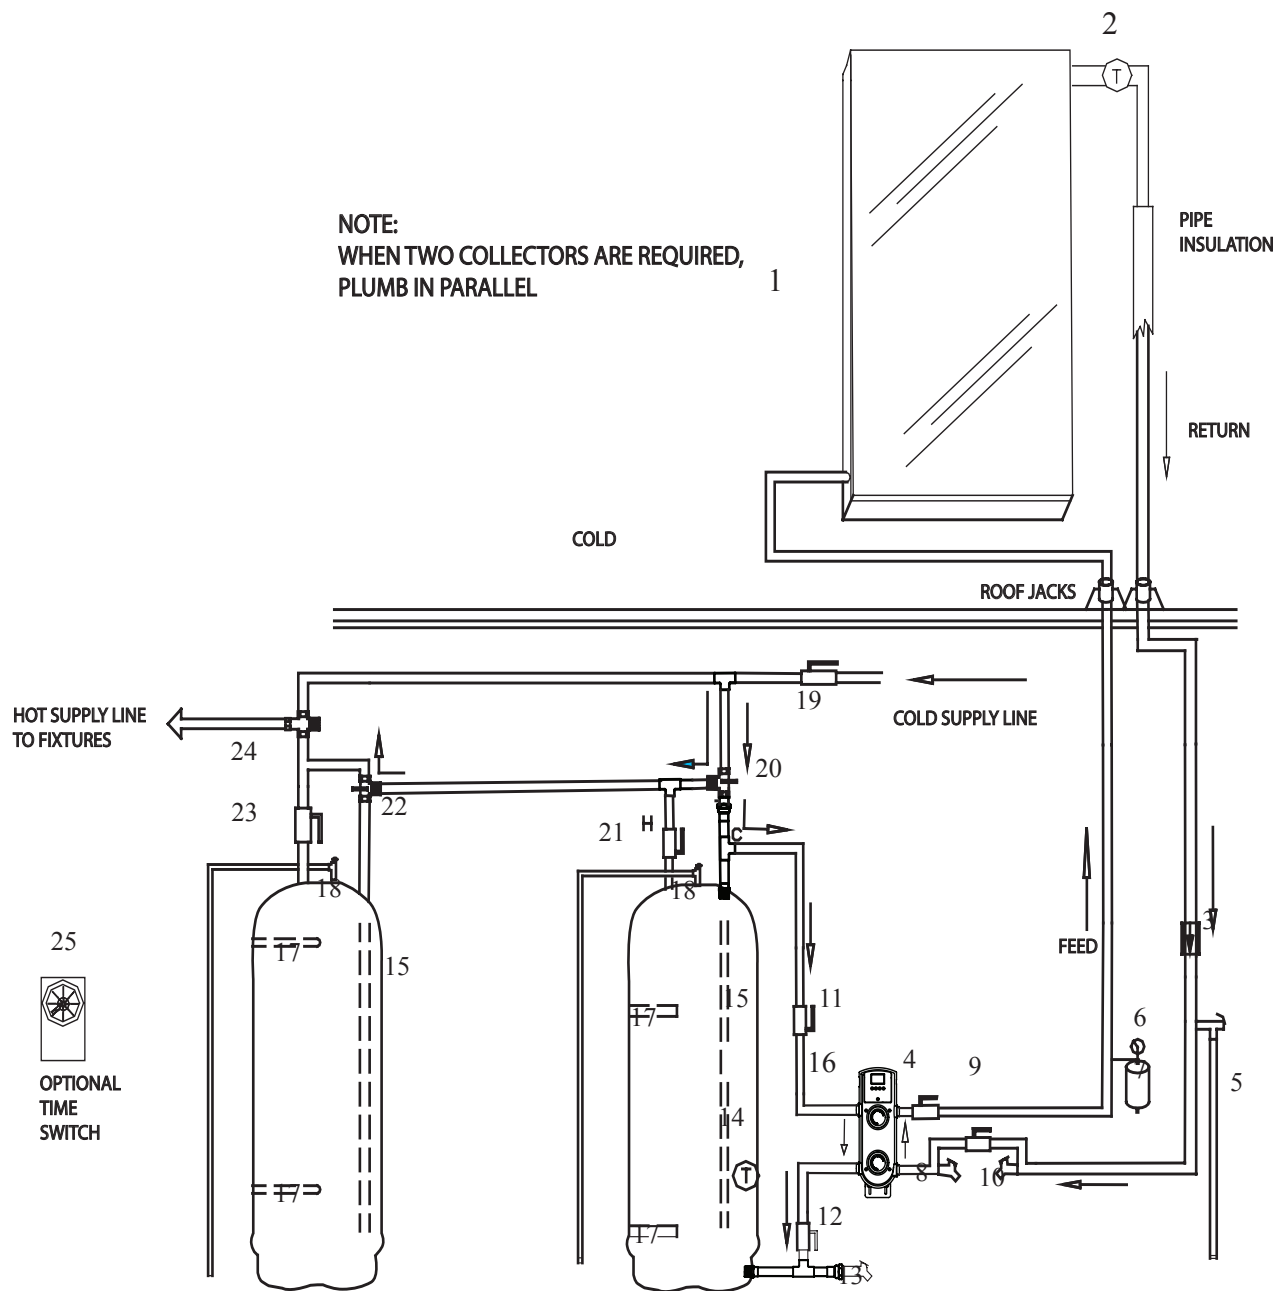

Figure 17
- 9.9 If the weather is poor and the auxiliary heating element will not fire, the bright red reset button on the thermostat may have to be depressed to be reset. Single tank systems have one heating element and thermostat. Double tank systems with conventional electric water heaters have two heating elements and thermostats (see fig 17, No. 17).